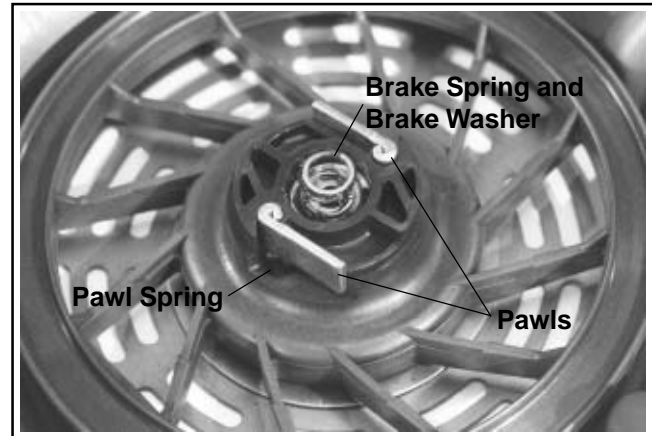

Figure 7-5. Brake Spring and Washer, Pawls, and Pawl Springs.
3. Remove the brake spring and the brake washer. See Figure 7-5.